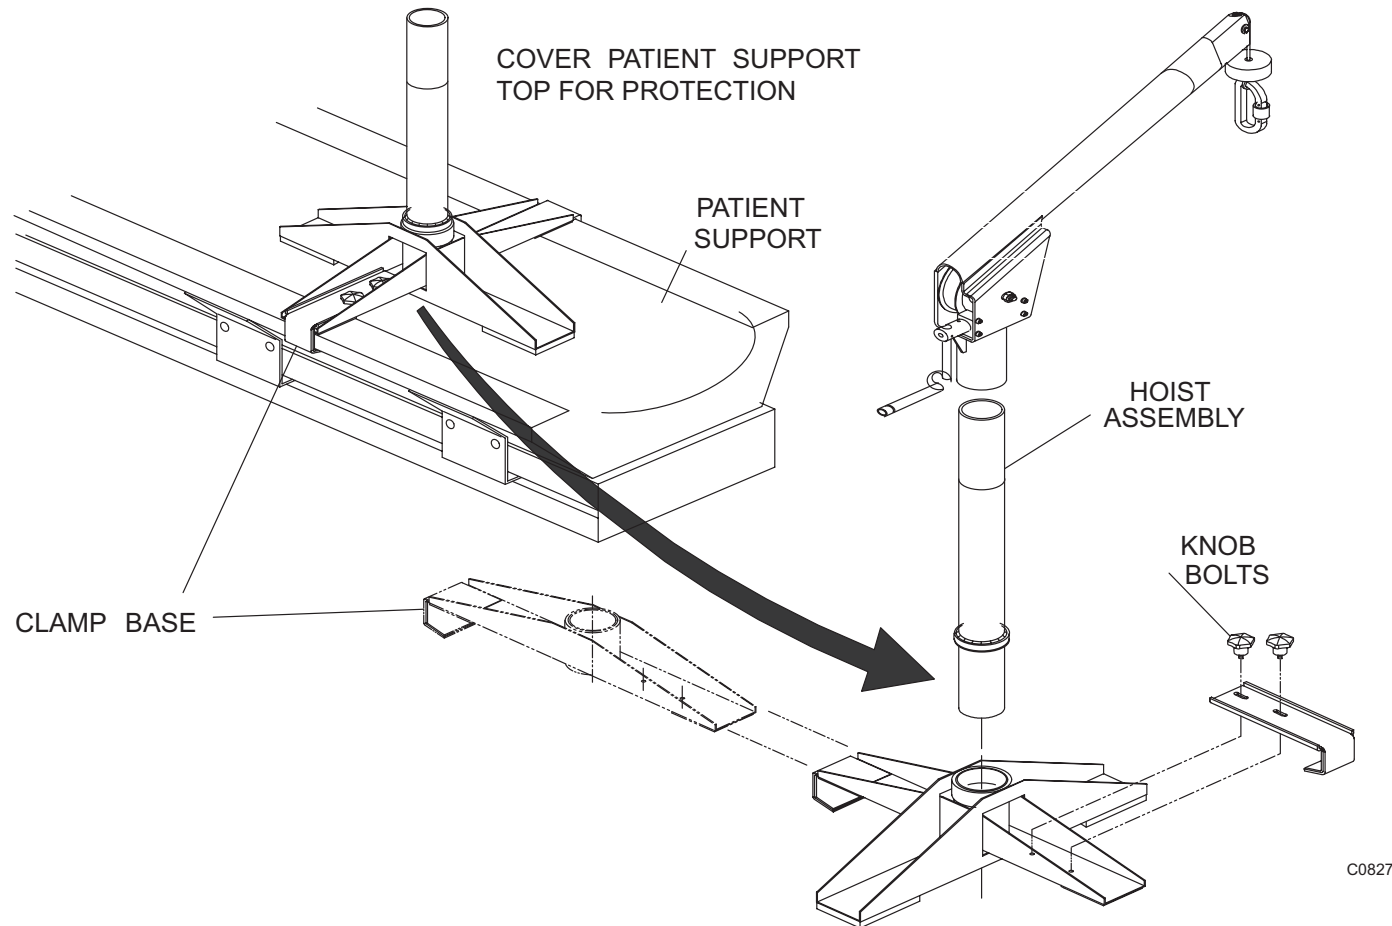

FIGURE 47 HOIST ASSEMBLY
1. Assemble the hoist and secure it to the Patient Support couch top. Screw the *knob bolts* in securely and make sure the Clamp Base seats firmly in position on the Patient Support. See Figure 47.